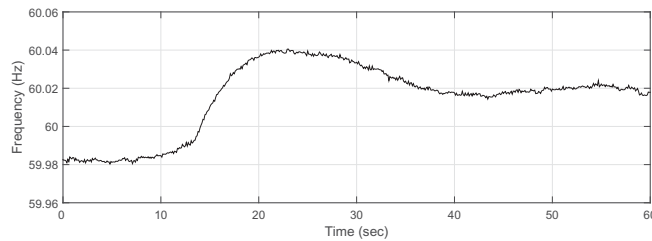

Figure 2.42 Measurements during a system-wide frequency event in Exercise 2.26 [133].
- 2.26** Consider the frequency measurements in Figure 2.42.